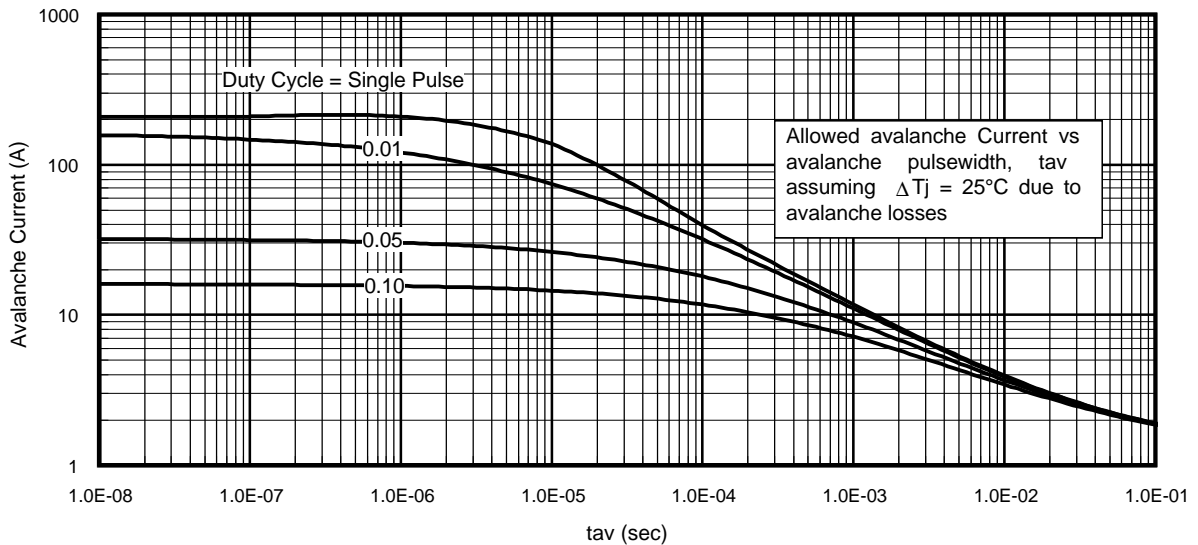

Fig 15. Typical Avalanche Current Vs.Pulsewidth
**Notes on Repetitive Avalanche Curves , Figures 15, 16:
7.  $\Delta T$  = Allowable rise in junction temperature, not to exceed  $T_{jmax}$  (assumed as  $25^\circ\text{C}$  in Figure 15, 16).